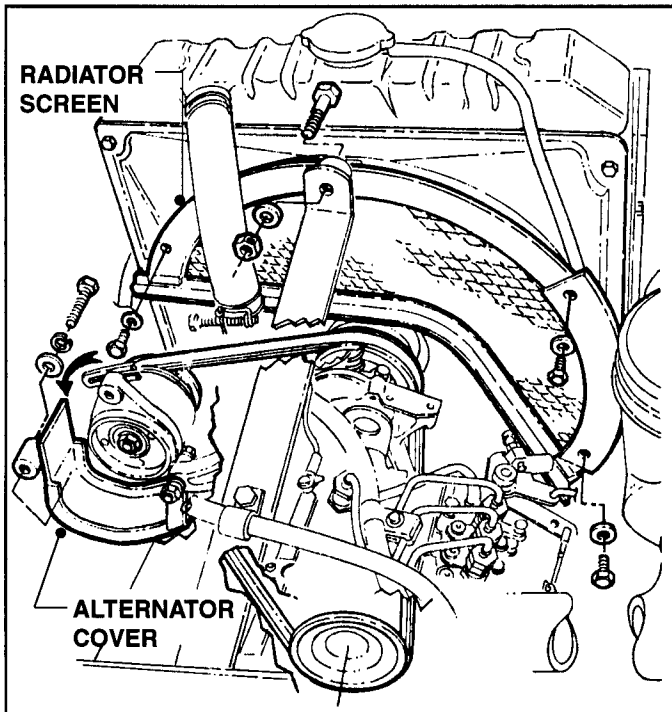

FIGURE 5.11
2. Remove Nut and Bolt that secure the top portion of Alternator Cover. Rotate Cover to the side. See Figure 5.11.